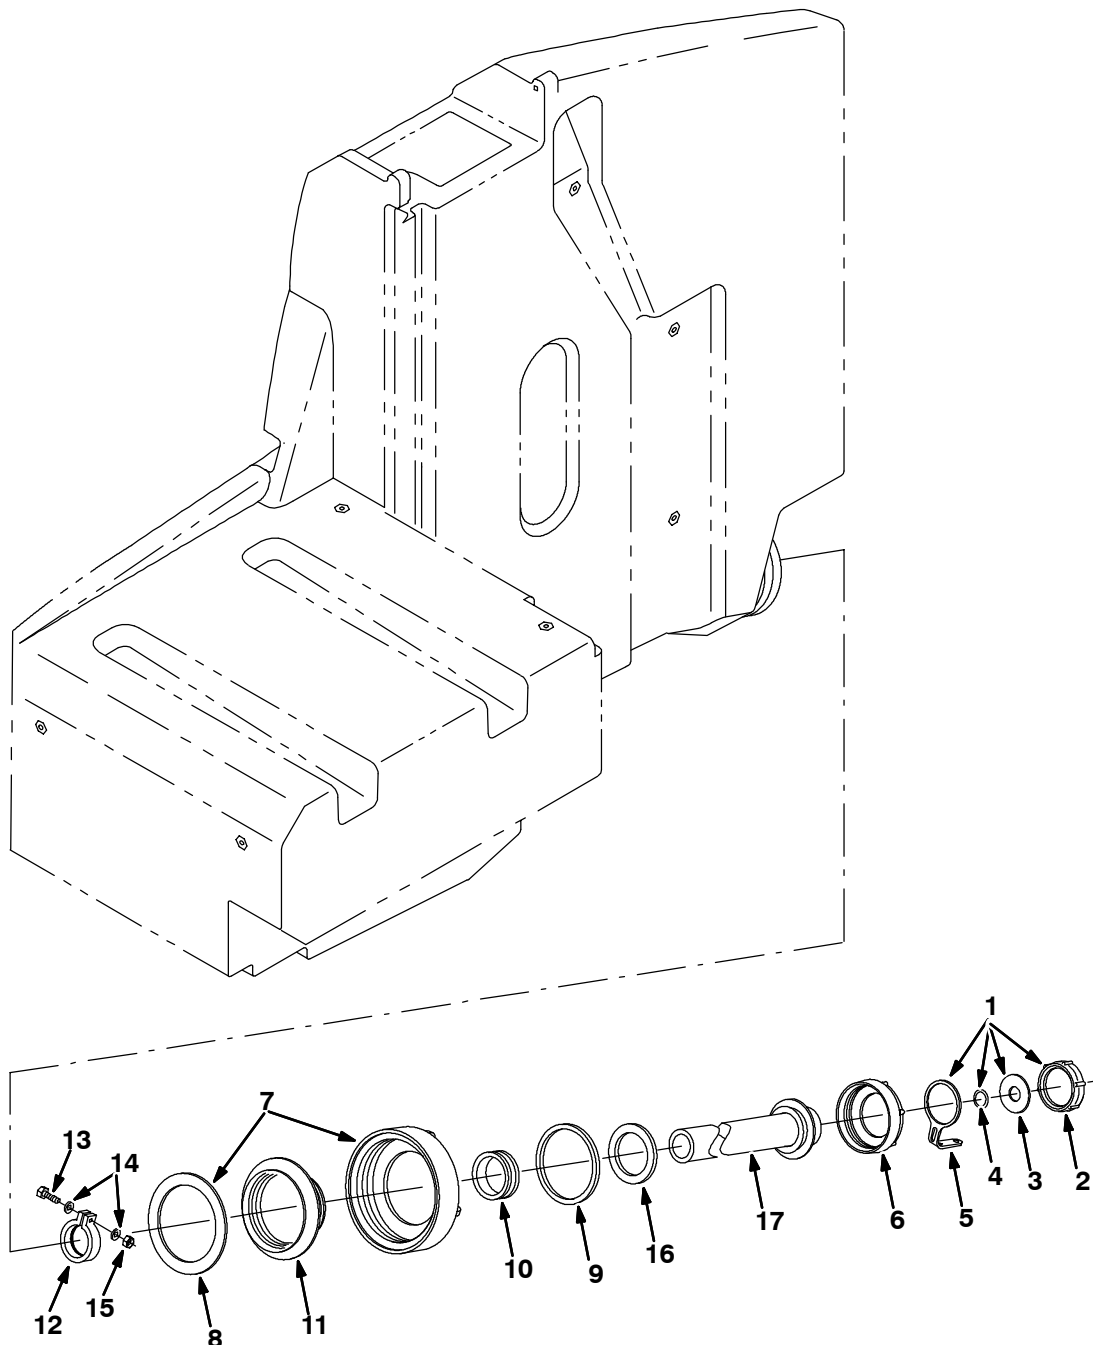

FIG. 1 - ES™ DRAIN ASSEMBLY KIT 387467
(Refer to FIG. 1)
1. Mount the hose seal (10) in the center of the cover insert (11). Mount the lid gasket (8) around the edge of the cover insert (11). (Refer to FIG. 1)
2. Slide the lid gasket (16) over the hose, and onto the end of the drain hose assembly (17). (Refer to FIG. 1)
3. Install the new lid assembly onto the drain hose assembly (17). (Refer to FIG. 1)
4. Mount the hose clamp (12) to the end of the drain hose assembly (17) with the hex screw (13), flat washers (14) and lock nut (15). (Refer to FIG. 1)
5. Mount the assembly cover (7) over top of the new lid assembly with the drain cap gasket (9). Thread the drain cap (6) onto the insert cover (11) Mount the cap retainer strap (5) to the drain hose (17). (Refer to FIG. 1)
6. Mount the cap gasket (3) inside of the tank drain cap (2) with the retaining ring (4). Secure the tank drain cap to the retaining strap (5). (Refer to FIG. 1)